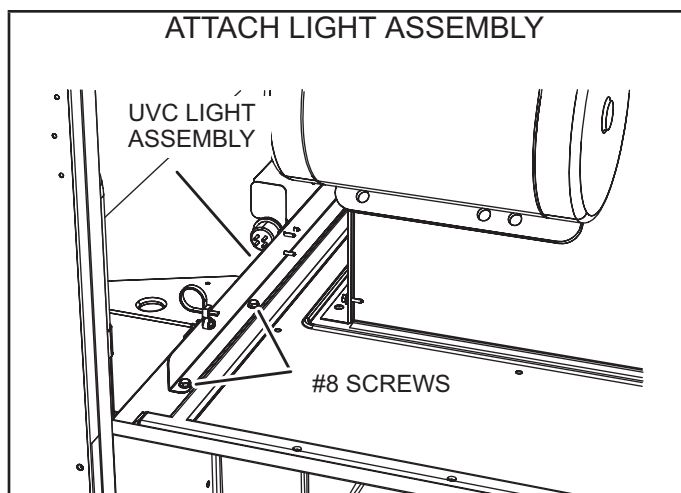

FIGURE 42
- 8 - Carefully place the UVC assembly on the blower deck. Line up the mounting holes on the UVC assembly with the mounting holes on the blower deck. See FIGURE 42. Use the #10 screws provided to attach the UVC assembly in place.